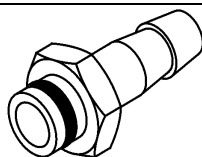

FIG.19
Connect the pipe for discharging used water into the pipe fitting for back discharge used water (*FIG. 19*) and screw into the used water tap (*FIG. 1–pos.4*).